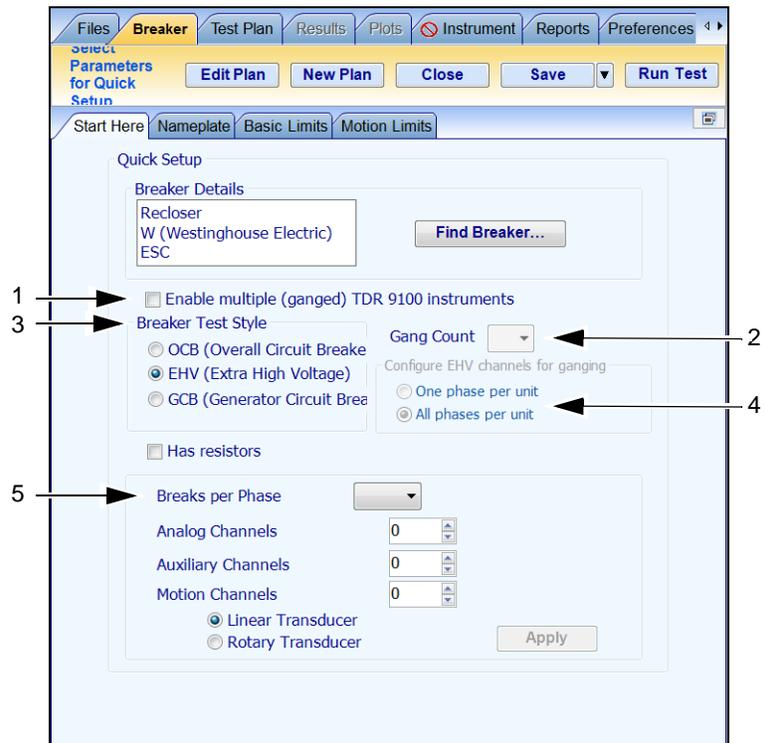

Figure 4 Start Here Subtab of Breaker Tab
2. Select **Enable multiple ganged TDR9100 instruments** (Item 1 in Figure 4).
3. Select a Gang Count of **3** or leave the default of **2** (Item 2 in Figure 4).
4. Select a Breaker Test Style of **EHV** if applicable (Item 3 in Figure 4). (OCB and GCB styles are not supported in ganged mode.)
5. EHV only: configure the EHV channels for ganging (Item 4 in Figure 4). To gang:
- Select a number of Breaks Per Phase (Item 5 in Figure 4).